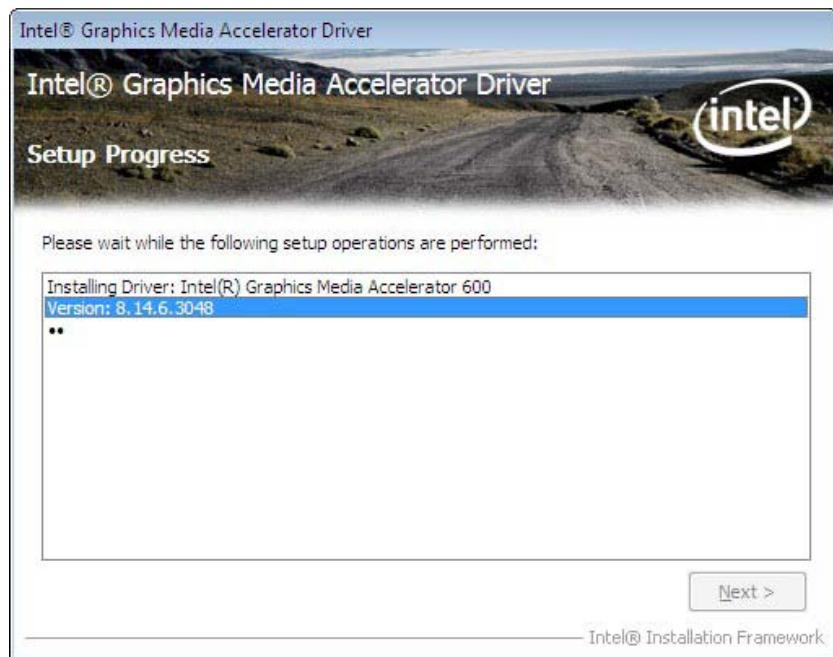

Figure 6-12: VGA Driver Setup Operations
Step 12: **Setup Operations** are performed as shown in **Figure 6-12**.